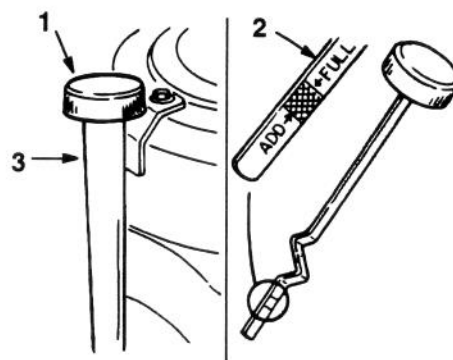

Figure 32
3. Clean around the oil dipstick (Fig. 32) so dirt cannot fall into the filler hole and damage the engine.
4. Unscrew the oil dipstick and wipe the metal end clean (Fig. 32).
5. Screw the oil dipstick fully onto the filler tube (Fig. 32). Unscrew the dipstick again and look at the metal end. If oil level is low, slowly pour only enough oil into the filler tube to raise the level to the "FULL" mark.
6. Slowly pour approximately 80% of the specified amount of oil into the filler tube (Fig. 32). Now check the oil level; refer to Checking Oil Level, page 30, steps 4–5.